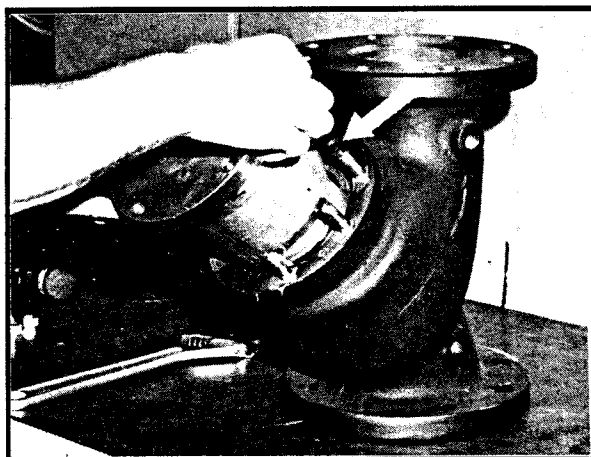

Figure 3-13 - Removing Cylinder Assembly
2. Using both hands, pull the cylinder assembly (Item 29) straight out along its axis. Be careful not to lose O-rings (Item 33) when removing the cylinder assembly (Item 29). Reference Figure 3-13.